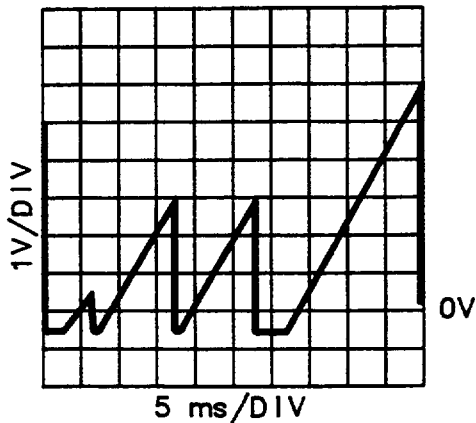

Figure 8-11. A4TP13 ADC Ramp Waveform
21. Connect the oscilloscope to A4TP13. Verify the signal shown in Figure 8-11.